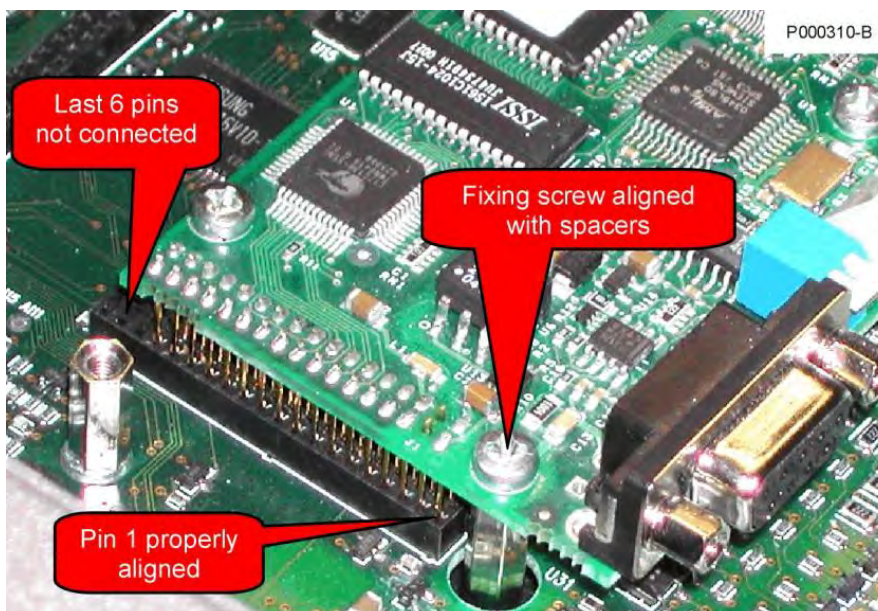
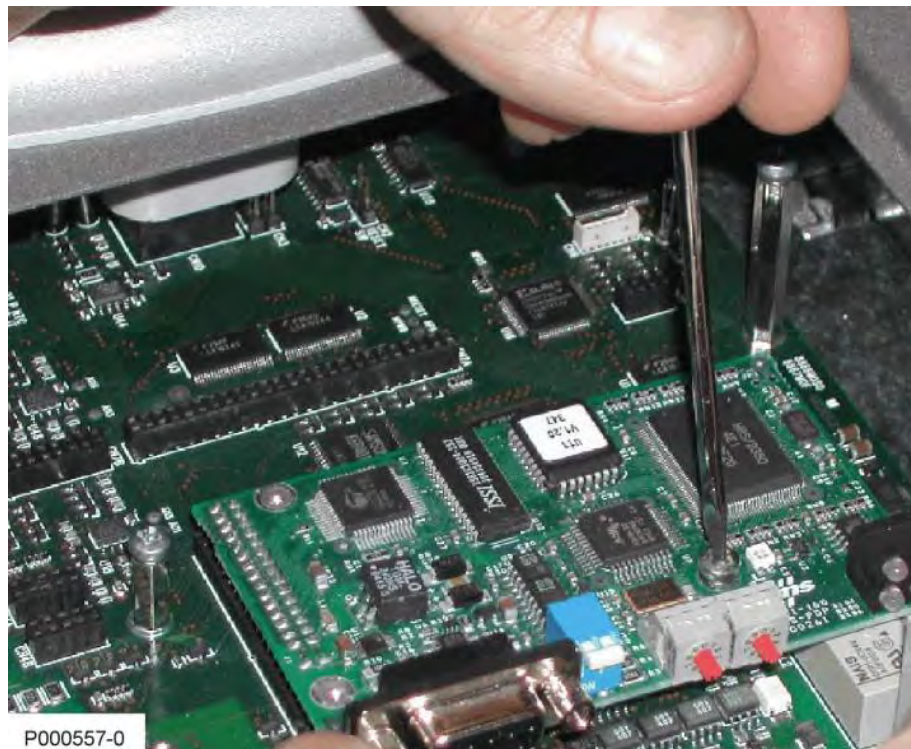

Figure 156: Checking contacts in the slot B
Figure 157: Fastening the communications board to slot B
- 4) Insert the communications board in the slot B; make sure that the connector bar in the board is inserted in the front part of the slot only, and that the last 6 pins are not connected. If installation is correct, the three fastening holes will match with the housings of the fastening screws for the fixing spacers. Tighten the board fixing screws as shown in Figure 156 and Figure 157.